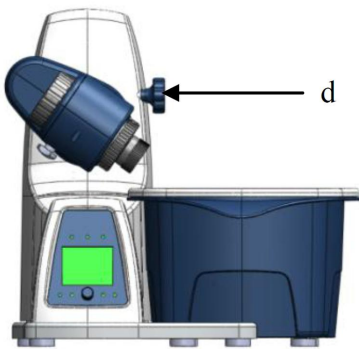

Figure 3
- Set the drive at an angle of approx. 30° (Figure 3)